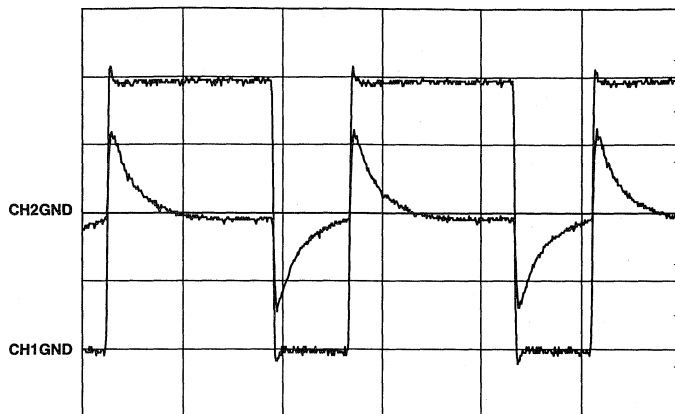

FIGURE 3. CH1 IS THE VARIABLE DUTY CYCLE INPUT VOLTAGE (VS) CH2 IS THE VOLTAGE AT L- AND R+ INPUTS OF THE HIP2030
In Figure 3, the variable duty cycle Vs signal (Ch2) crosses the  $\pm$ thresholds of the MCTDRV2 (L+) and (R-) inputs; which forces the gate output pin GO to  $\pm 12V$  across the DUT gate capacitance (Ch1). Figure 4 shows a close up of  $V_{PRIM}$  (Ch2) and the L/R time constants that limit the maximum frequency of operation. Please note that in Figure 4 (Ch2), the threshold voltage was reached at the time L/R and is a 60ns delay time. Figure 4 (Ch1) shows a fast input signal  $V_{STEP}$  applied to the inputs of R1 and R2. Figure 5 shows the input
- We have demonstrated, in Figure 3, that a variable duty cycle input voltage (Ch1) can be coupled through a transformer and can generate a differentiated secondary voltage (Vs) that is uniform in amplitude and is independent of "volt-second balance."